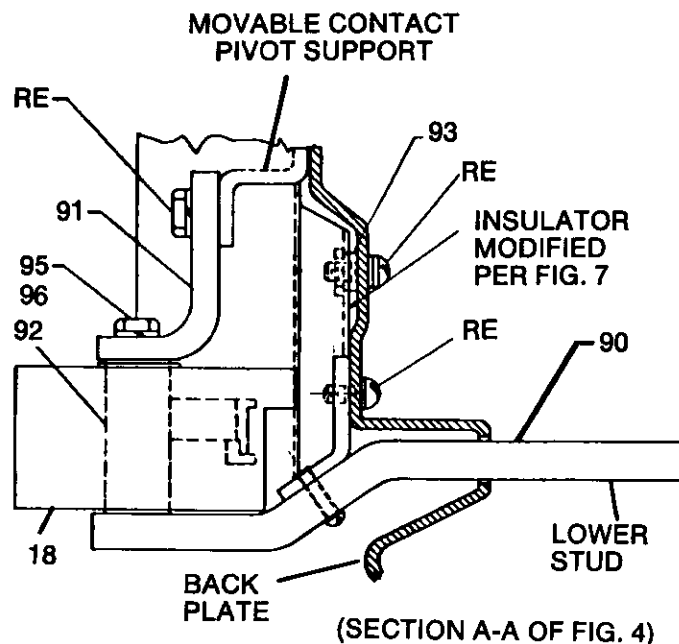
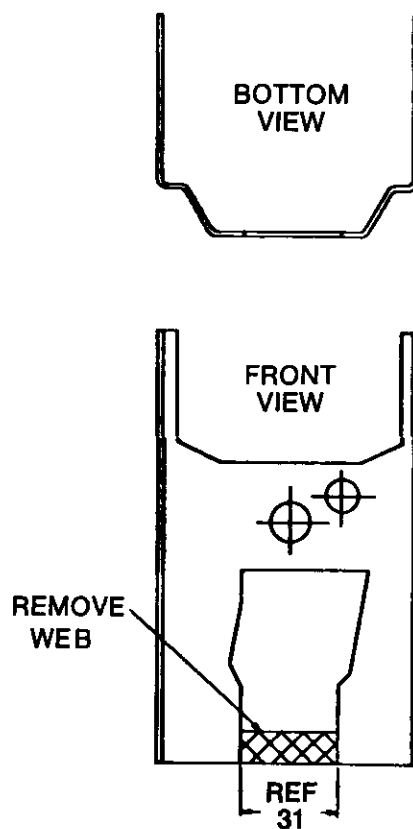

Fig. 7 — Phase sensor assembly, right side view
Fig. 8 — Stud insulator modification
1. Modify the left and right pole lower stud insulator shields per Fig. 8; remount on back plate using original screws and special nut (item 93 on Fig. 7) supplied with kit.